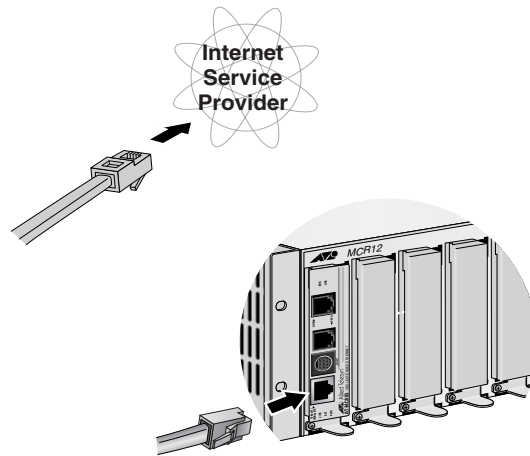

Figure 20 Ethernet to Internet Service Provider
1. First, connect the Ethernet cable from the Ethernet port to the Service Provider box in your wiring closet, as shown in Figure 20.